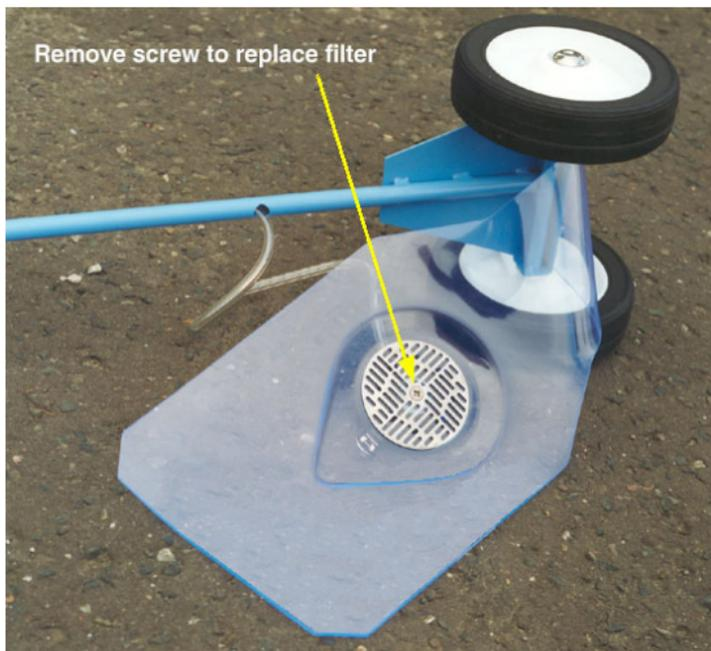

Figure 4.2 Filter Assembly
- 1) Position the carpet probe with the sample collector upturned and filter washer visible, as shown in Figure 4.2.